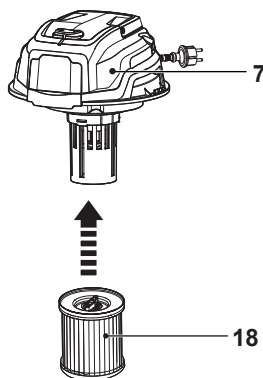
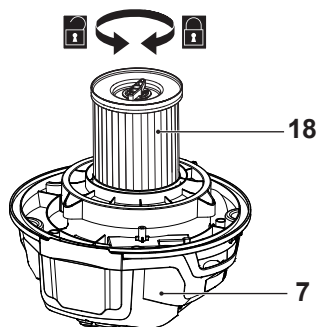

Fig. 6
Fig. 16
- > Assemble the cartridge filter (18) onto the motor unit (7) (Fig. 6). Ensure the filter sits properly in position. Refer to Fig 16.
- > Use the cartridge filter (18) to collect particles that are not already caught by the dust bag (19). Always assemble the cartridge filter (18) onto the motor unit (7) for dry vacuuming operations (Fig. 16). Operating the product without the cartridge filter (18) can damage the motor unit.
- > Inspect the cartridge filter (18) regularly. replace it with a new one if necessary.
- > Wash the cartridge filter (18) frequently, with clear water and let it dry in air. Do not wait until the filter is completely dirty. We recommend inspecting the filter when the product does not reach a sufficient suction power.